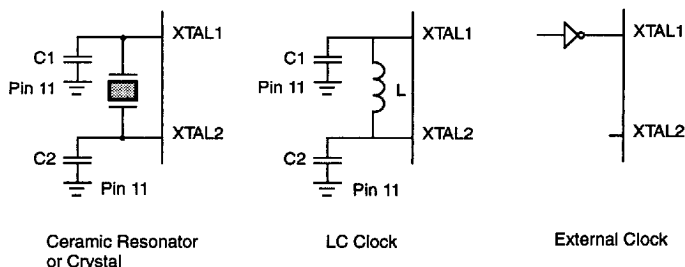

Figure 17. Oscillator Configuration
(RS) is less than or equal to 100 Ohms. The crystal should be connected across XTAL1 and XTAL2 using the recommended capacitors ($10\text{ pF} < \text{CL} < 100\text{ pF}$) from each pin to ground (Figure 17). **Note:** Actual capacitor value specified by crystal manufacturer.